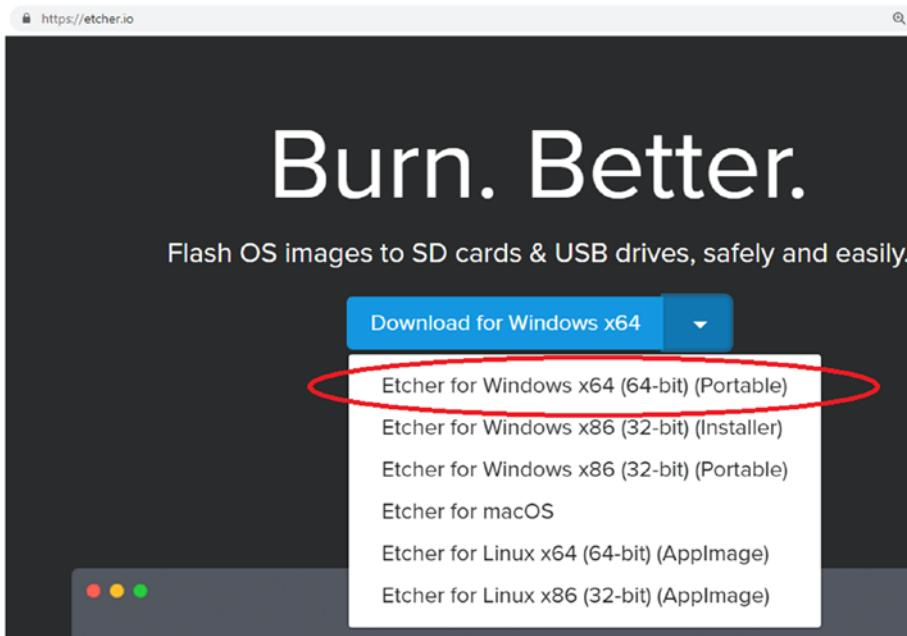

Figure 5-3. Choosing the Etcher portable or installer for your operating system
1. On the Etcher download page, choose the correct operating system that you want to use with Etcher from the drop-down list. Depending on your selection, a portable or installer file will download to your computer (Figure 5-3).